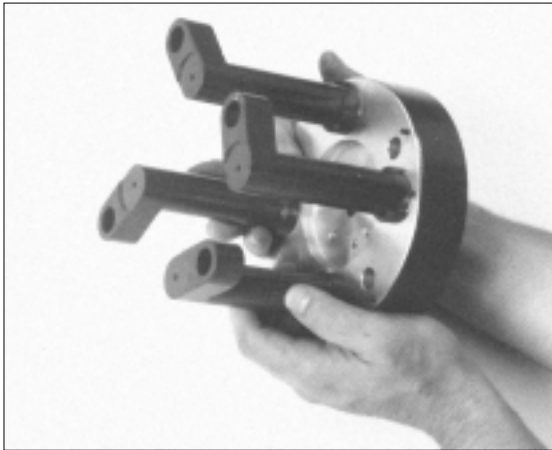

Figure 27
4. Orient all legs to the full outside position, against the stop. Hold lug adapter up to the vehicle. Turn each leg as to go over its corresponding lug on the rotor, Fig. 27.